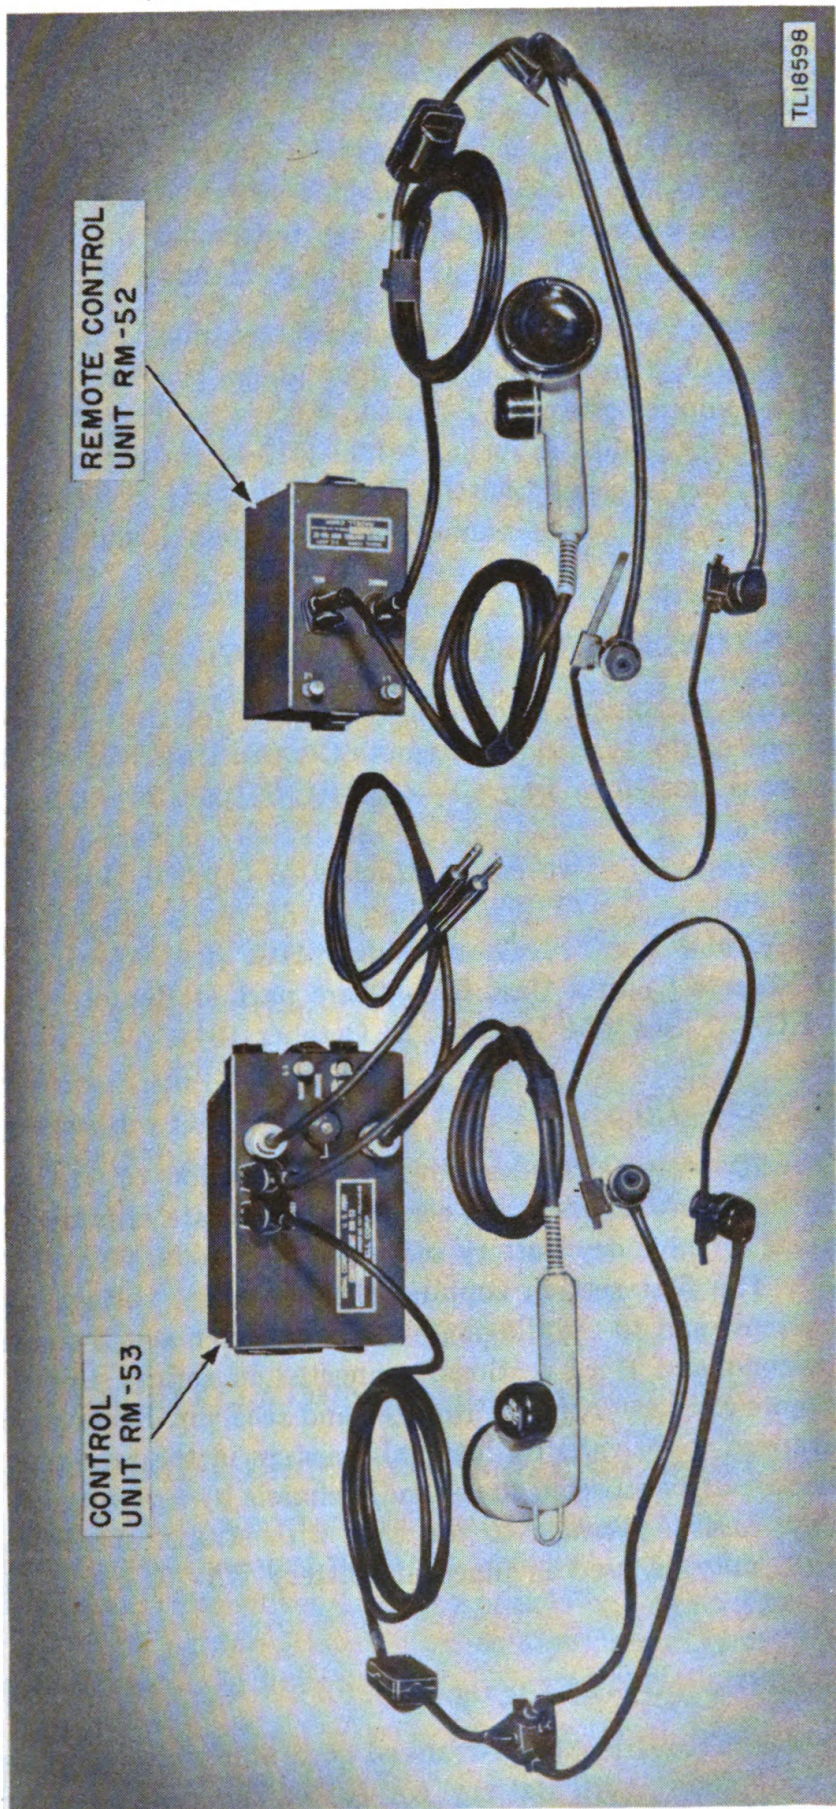

Figure 15. Remote Control Unit RM-52 and Control Unit RM-53.
13. REMOTE CONTROL EQUIPMENT (fig. 15).